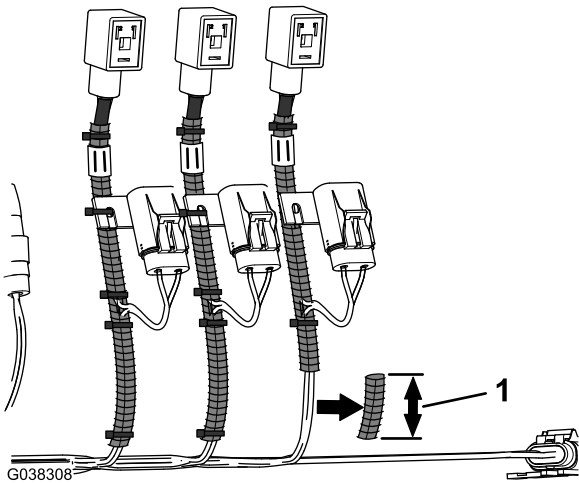

Figure 30
- 2. Remove 76 mm (3 inches) section of convoluted tubing as shown in Figure 30.